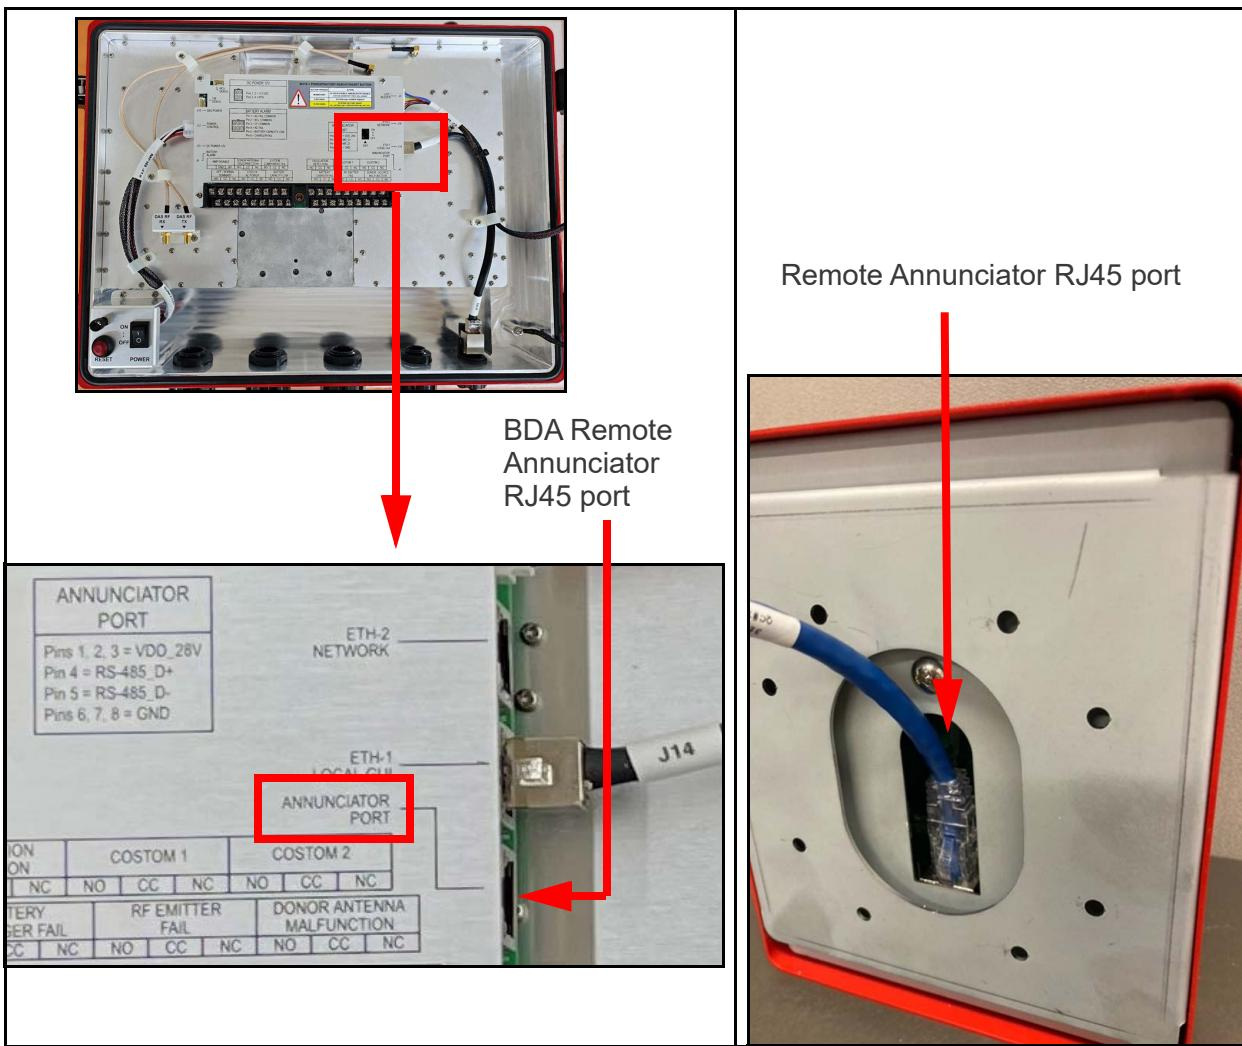

Figure 4-12 Connections to the Remote Announcer
4. Install the Ethernet cable through the bottom conduit fitting labeled REMOTE ANNUNCIATOR to the ANNUNCIATOR PORT connector inside the BDA and the port on the back of the annunciator (see Figure 4-12). Remove factory installed plugs from these RJ45 ports as necessary.